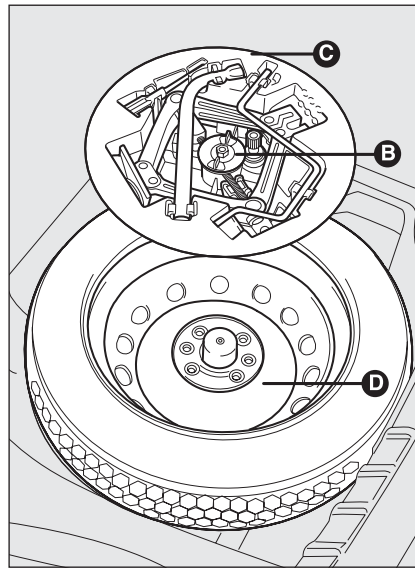

fig. 3
- loosen the clamping device **B**-fig. 3;